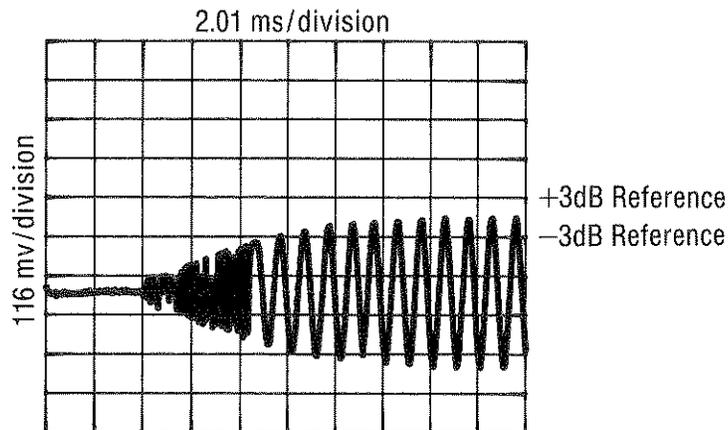

Figure 4-4. Amplitude Recovery Measurement Waveform
14. Measure the amplitude recovery time. The measurement is the time from the left graticule of the display to the last time the IF signal amplitude is outside of the reference points noted in step 13. If necessary, adjust the oscilloscope triggering to obtain a display similar to that shown in Figure 4-4.